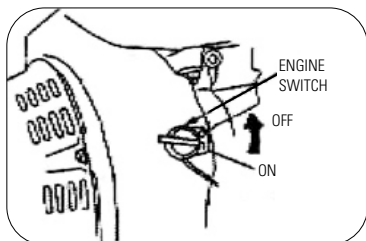

FIGURE 10.9
- Turn the engine switch to the OFF position. Figure 10.9